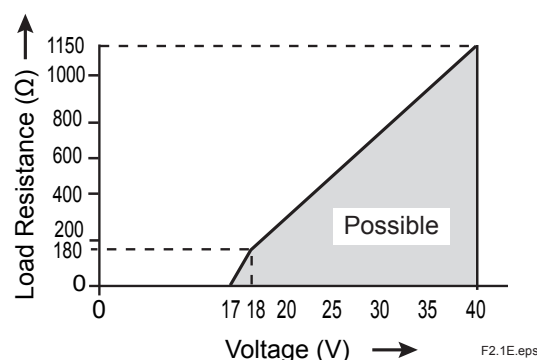

Fig. 2-1. Supply voltage/ load diagram for the PH202G
- PH202G : 17 to 40 volts, see Fig. 2-1.
For the PH202G, see Fig. 2-1.